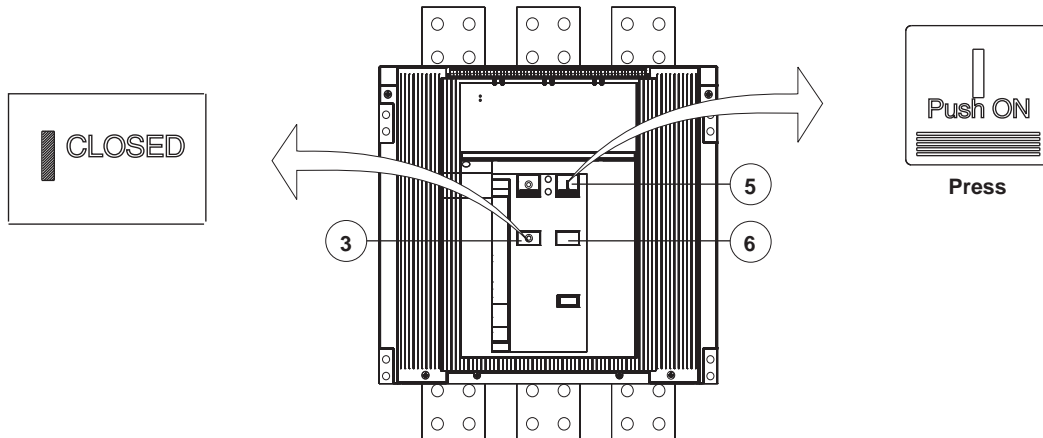

Fig. 17
Press the push-button (5, Fig. 17) marked with the letter “I” for closing in the manual mode. When there is a shunt closing release, the operation can also be carried out in the remote mode by means of a separate control circuit. Closing is signalled by the relative indicator (3), which moves to the “I” position. Moreover, the indicator of the state of the springs (6) moves to the WHITE position. The control has enough energy for the opening operation even when the closing springs are unloaded. If present, the charging motor immediately begins the automatic spring loading operation.